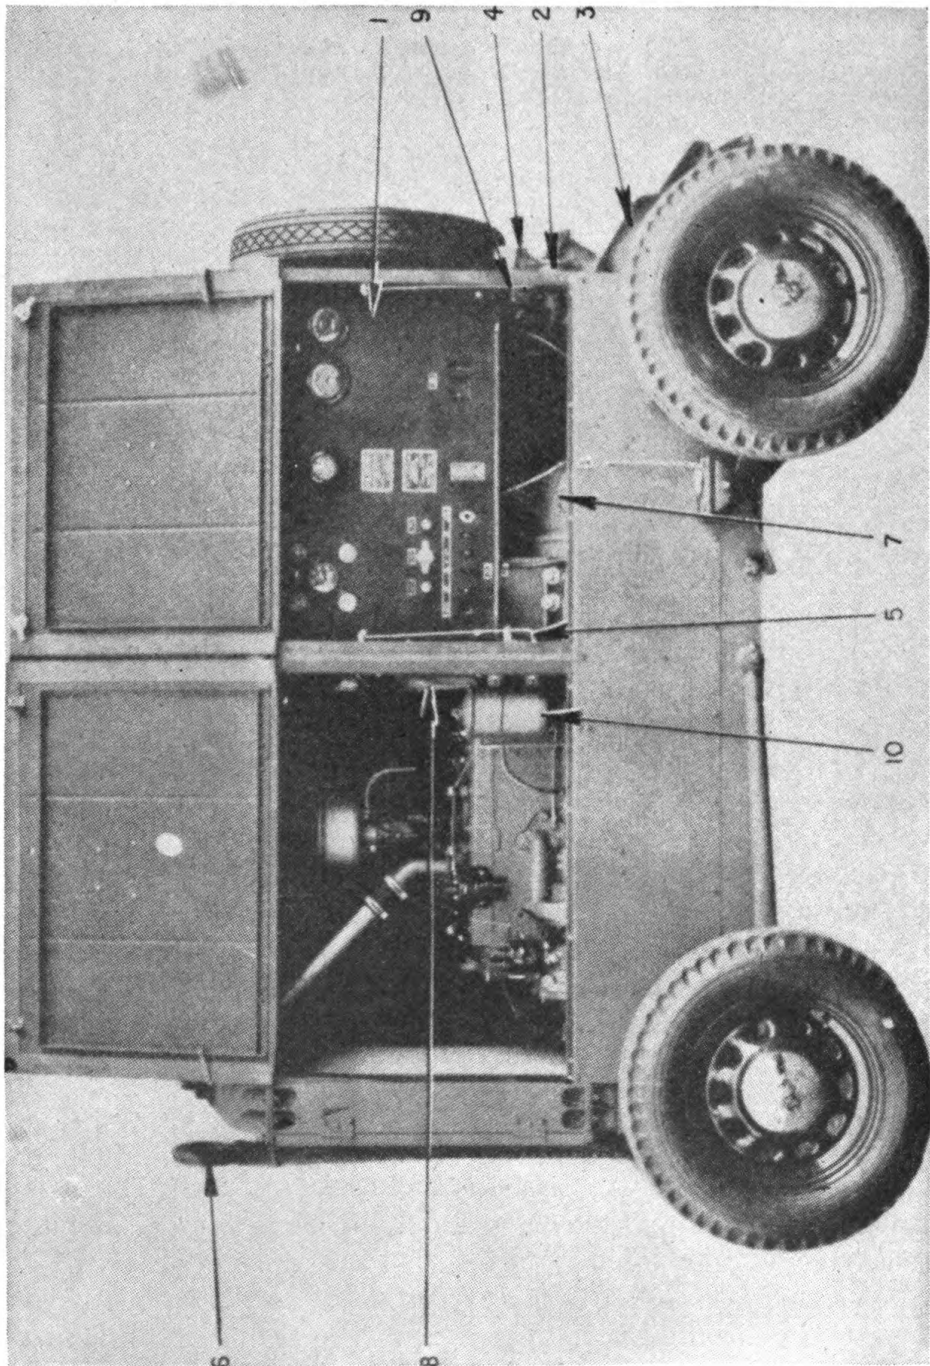

FIGURE 10.—Sperry M1941 power plant (left side).
Q. Point out the various parts, by name, of the power plant with which your organization is equipped. *A.* Refer to figures 10 and 11 for the M1941 Sperry power plant.